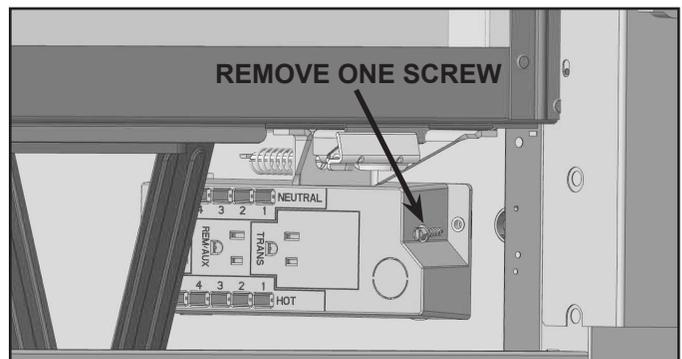

Figure 8.3 Junction Box Detail - JADE32IN-B
**JADE32IN-B:** The junction box is secured to the fireplace outer wrap. Remove one screw. See Figure 8.3.